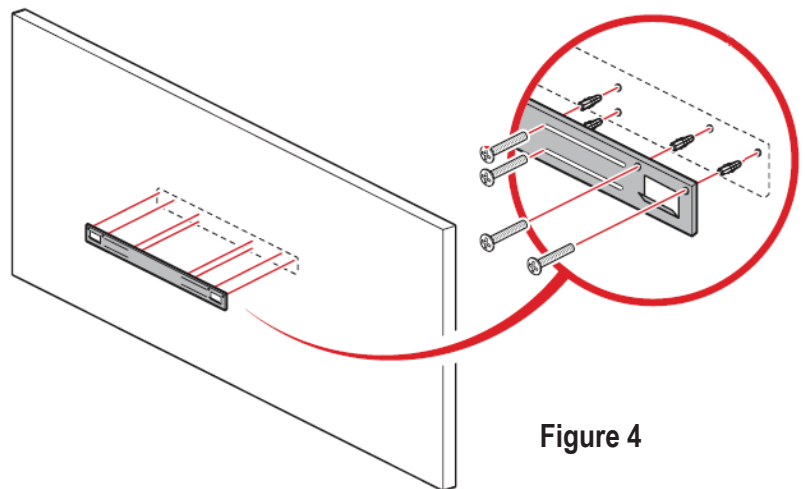

Figure 4
- Drill the holes and insert eight Drywall Anchors (F) into the holes. Install the bracket to the wall using eight M4 x 30mm Screws (G). [Figure 4]